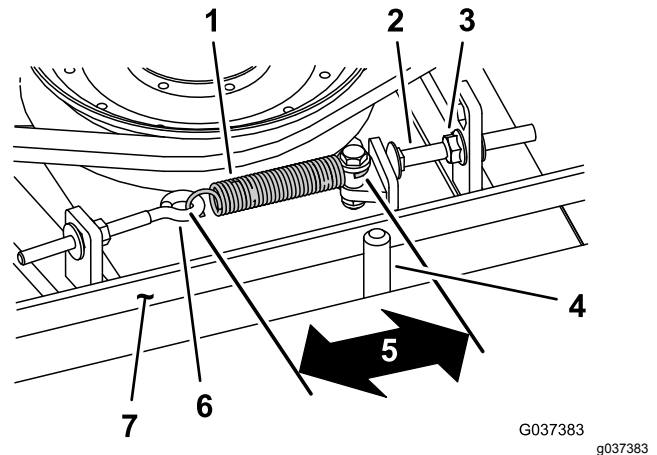

Figure 75
When properly tensioned, the inside measurement of the extension spring (hook to hook) should be approximately 8.3 to 9.5 cm (3-1/4 to 3-3/4 inches). Once the correct spring tension is attained, adjust the stop bolt (carriage bolt) until there is approximately 2 to 5 mm (0.065 to 0.185 inch) clearance between the head of the bolt and the idler arm (Figure 75).
Note: Ensure that the belt is positioned on the spring side of the belt guide (Figure 75).
2. Loosen the eye bolt allowing the removal of the extension spring (Figure 75).
3. Loosen the flange nut securing the stop bolt to the mounting tab and move the idler pulley away from the belt to release the belt tension (Figure 75).
9. Connect the extension spring (Figure 75) to the eye bolt and tension the belt as follows: